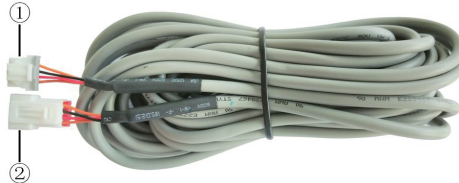

Fig. 23: Schematic diagram of connection wire: Connect terminal ① with wired controller CN1; connect terminal ② with the terminal ④ of patch cord
Only use the connection wire (fig. 23) in the packing box of wired controller. Connect the terminal ② to the terminal ④ of patch cord which has been installed on the air conditioner; insert terminal ① to needle stand CN1 of wired controller. If there's protection terminal ③, pull out the protection terminal at first and then install it.